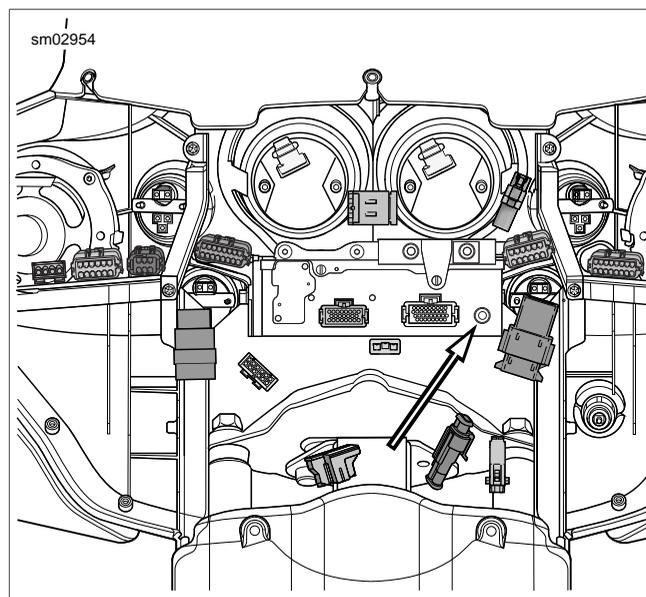

Figure 8-117. Radio Antenna Cable Connector (FLHX, FLHTC/U)
5. Remove radio antenna cable connector [51] at back of radio (left side). See Figure 8-117. Carefully cut cable where it exits main harness conduit.
1. Connect radio antenna cable connector [51] at back of radio (left side). See Figure 8-117.